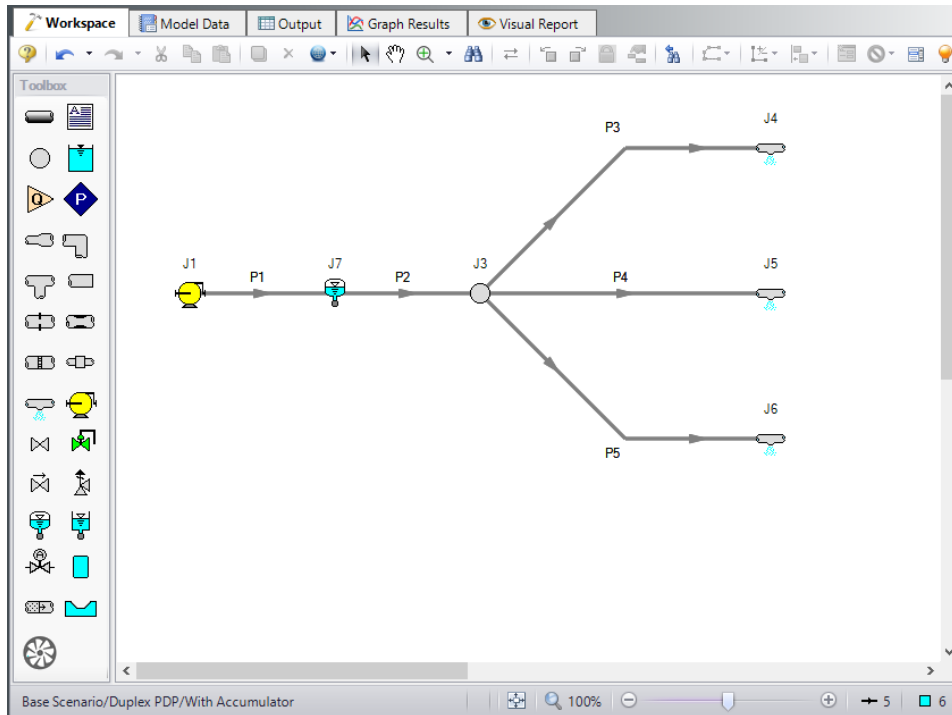

Figure 4: Scenario with 3 head pump and gas accumulator junction
- c. Let go of the CTRL key. The gas accumulator junction should take on the number J7. See Figure 4.